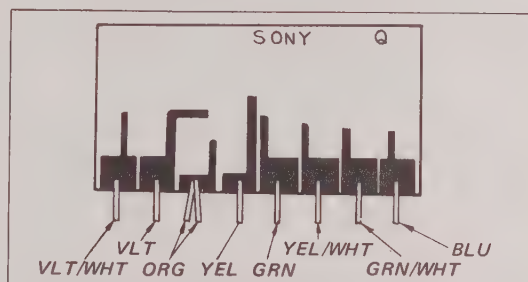

Fig. 5-24. Wiring on Q board
1. Unsolder nine leads on the Q board as shown in Fig. 5-24.